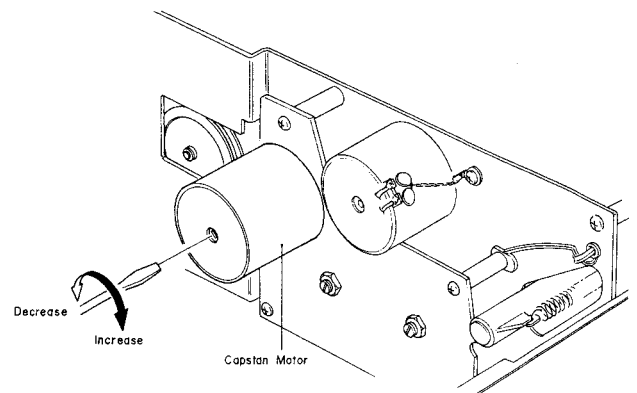

Fig. 4.3
- (1) Remove the Top Cover Ass'y referring to item 2.1.
- (2) Connect a Frequency Counter to the Output Jack.
- (3) Load a 3 kHz Speed Wow/Flutter Tape (DA09006A) and play it back.
- (4) Referring to Fig. 4.3, adjust the Tape Speed Adjustment Volume (VR501) incorporated in the Capstan Motor to obtain 3,000 Hz on the Frequency Counter.